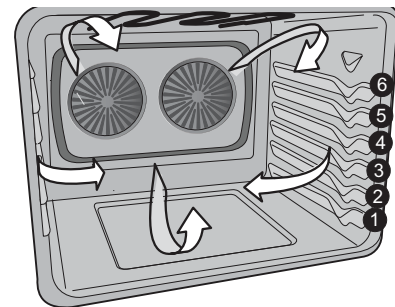

Figure 11: Convection air flow
Convection baking enables you to obtain the best results when baking with multiple pans and racks. The oven can be programmed for convection baking at any temperature between 170°F to 550°F. The convection function uses a fan to circulate the oven heat uniformly and continuously around the oven (Figure 11). This improved heat distribution allows for fast, even cooking and browning results. It also gives better baking results when using two oven racks at the same time. During convection baking, the convection fan may pulse on and off to maintain the set temperature for precise baking.
- For best results when baking cakes using two oven racks, place Glide rack in positions 5 with offset rack in position 1. (See Figure 11).